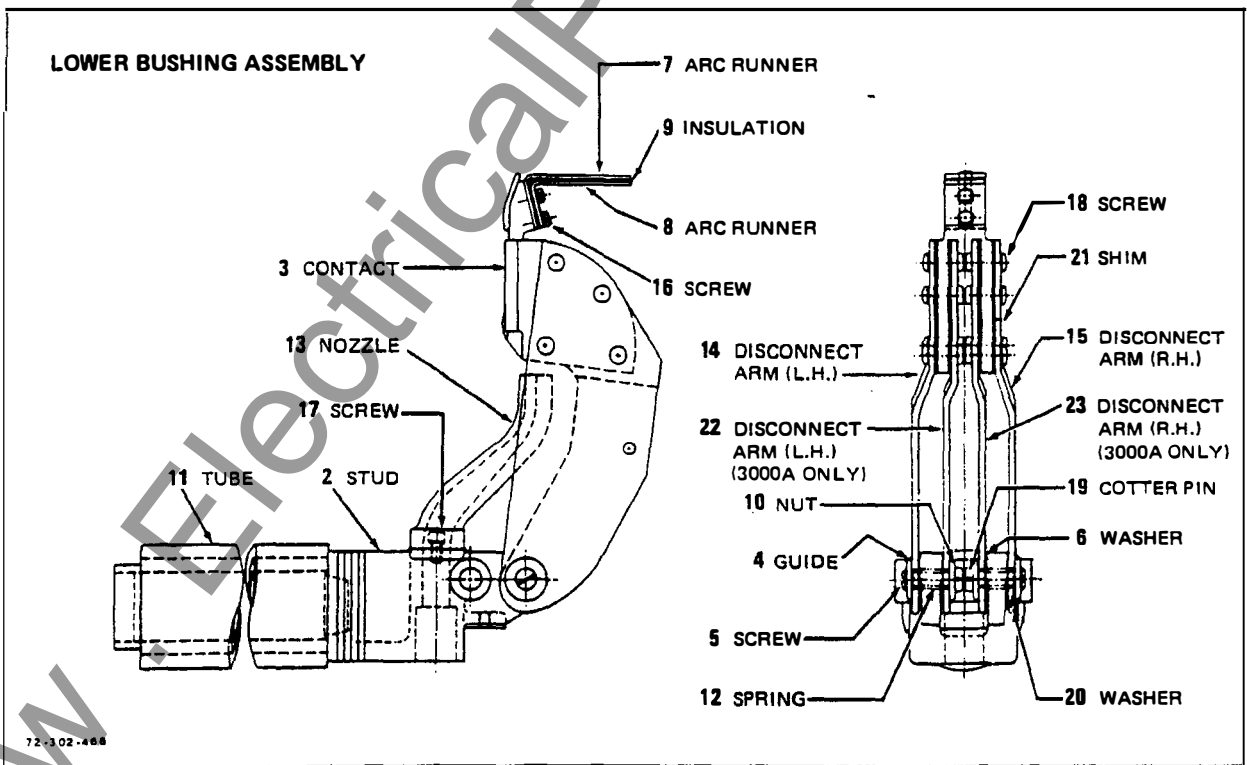
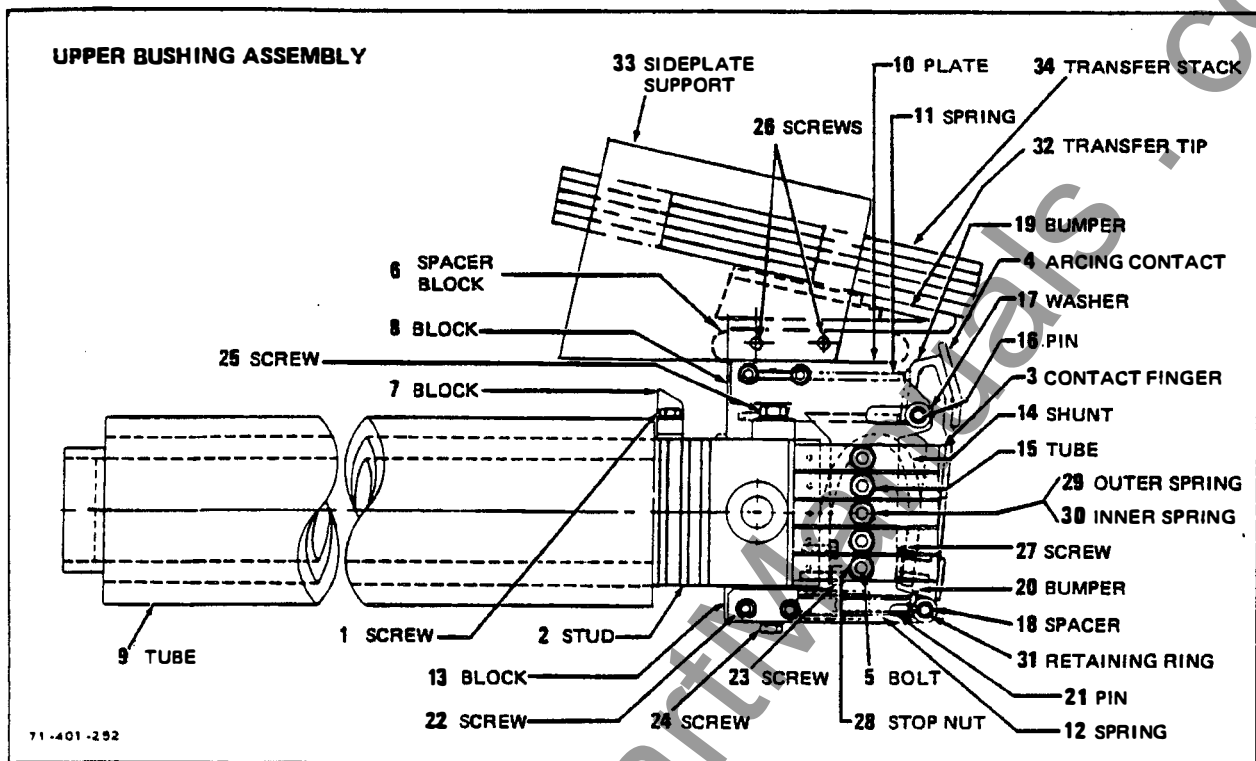

Figure 11B.
Figure 11C.
Transfer stack (34) shown in Figure 11C are as fragile as the barrier stacks and likewise, should be handled carefully. Transfer stacks (34) should be replaced if milky glaze appears on the edges of the slots or if plates are broken or cracked. To remove the transfer stack (34), remove one of the two sideplate supports (33). Hold the transfer stack
(34) with one hand to prevent it from falling down while the sideplate support (33) is being taken out. To install the transfer stack (34), follow the reverse order of above.
4. If either a left or right hand "C" dimension is less than 0.040 (1.02 mm) contact alignment will require adjustment. This adjustment is made by opening the breaker, scribing the position of blocks (8 and 13, Figure 11C), loosening screws (24 and 25) and moving blocks (8 and 13) sideways to equalize the dimensions "C" between each side. The scribed lines serve as a reference. Refasten screws (24 and 25). Close breaker and check alignment. When making this adjustment be sure block (8) is firmly seated against ridge on top of stud.
2. If dimensions "a" and "b" are incorrect, remove one roll pin from each plate (10) and loosen eight screws (22, Figure 11C). Insert a spacer as thick as dimension "a" between the tertiary contacts, and apply a C-clamp bearing on rear of block (8, Figure 11C) and front movable contact (3, Figure 11B). Adjust clamp to dimension "b". With contacts held in this position move two plates (10, Figure 11C) back so that pins (16) are touching leading end of plate slots. Tighten eight screws (22), drill and insert pin to